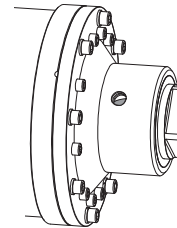

Figure 5
- Once the filler hole is at approximately 60° the oil should be sitting at the base of the filler hole thread (Figure 5).
5. Insert new shaft seal and tap it into place with a hammer and level metal plate, until the seal is level with the housing (Figure 5).